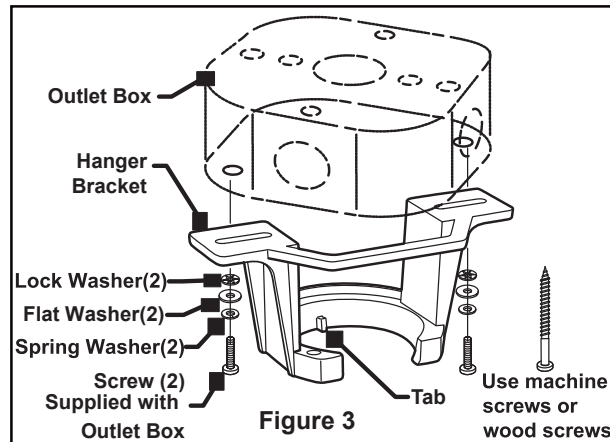

Figure 3
- Securely attach the hanger bracket to the outlet box using the outlet box screws and washers supplied with the outlet box. (Figure 3)
- (Figure 3)